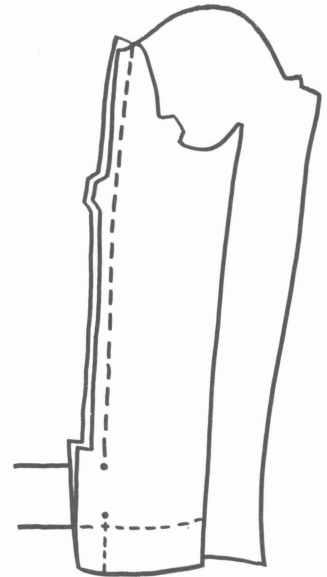

Figure 31. Fake sleeve vent.
1. Follow the pattern guidesheet instructions for stitching the underarm sleeve seam from the armhole to the top vent circle (Figure 31, Point A). For added ease in sewing a two-piece sleeve, leave the unvented seam open until the vent is completed.
2. Starting at the cut edge of the hem allowance at the vent seam, stitch along the vent fold lines the width of the hem allowance plus approximately $\frac{1}{2}$ inch (1.7 cm) (Figure 31, Point B).